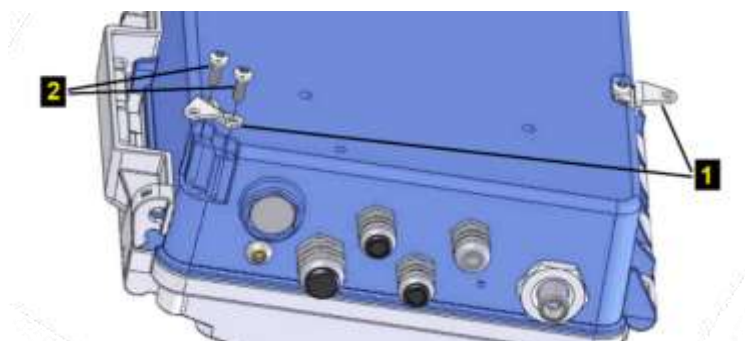

Fig. 8 Mounting the brackets on the device
1. Before attaching the device to the mounting plate, first fit 3 pcs of brackets **1** using 3.5x12 self-tapping screws for plastic **2** supplied with the device (see Figure 8) onto the bottom side of the device (see Fig. 8).